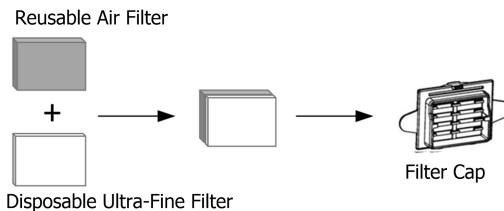

Fig. 12-2
- (2) If the disposable ultra-fine filter is applied, place the reusable air filter first, the reusable air filter should be closest to the filter cap and the disposable ultra-fine filter should be closest to the device, as shown in Fig. 12-2.